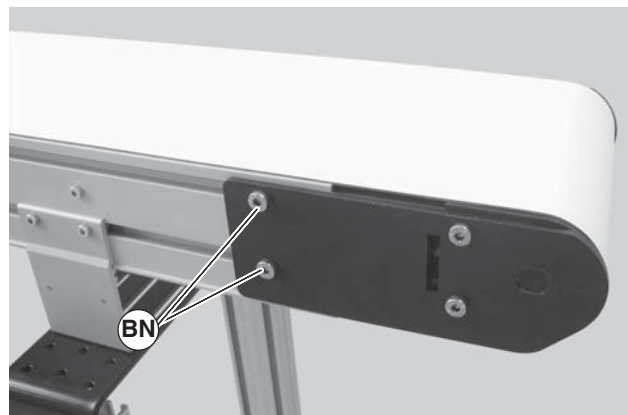

Figure 38
1. On the side of conveyor which the belt is tracking towards, loosen the head plate fastening screws (Figure 38, item BN).
3. Re-tighten the head plate fastening screws (Figure 38, item BN) with a 5 mm hex-key wrench to 146 in-lb (16.5 Nm).